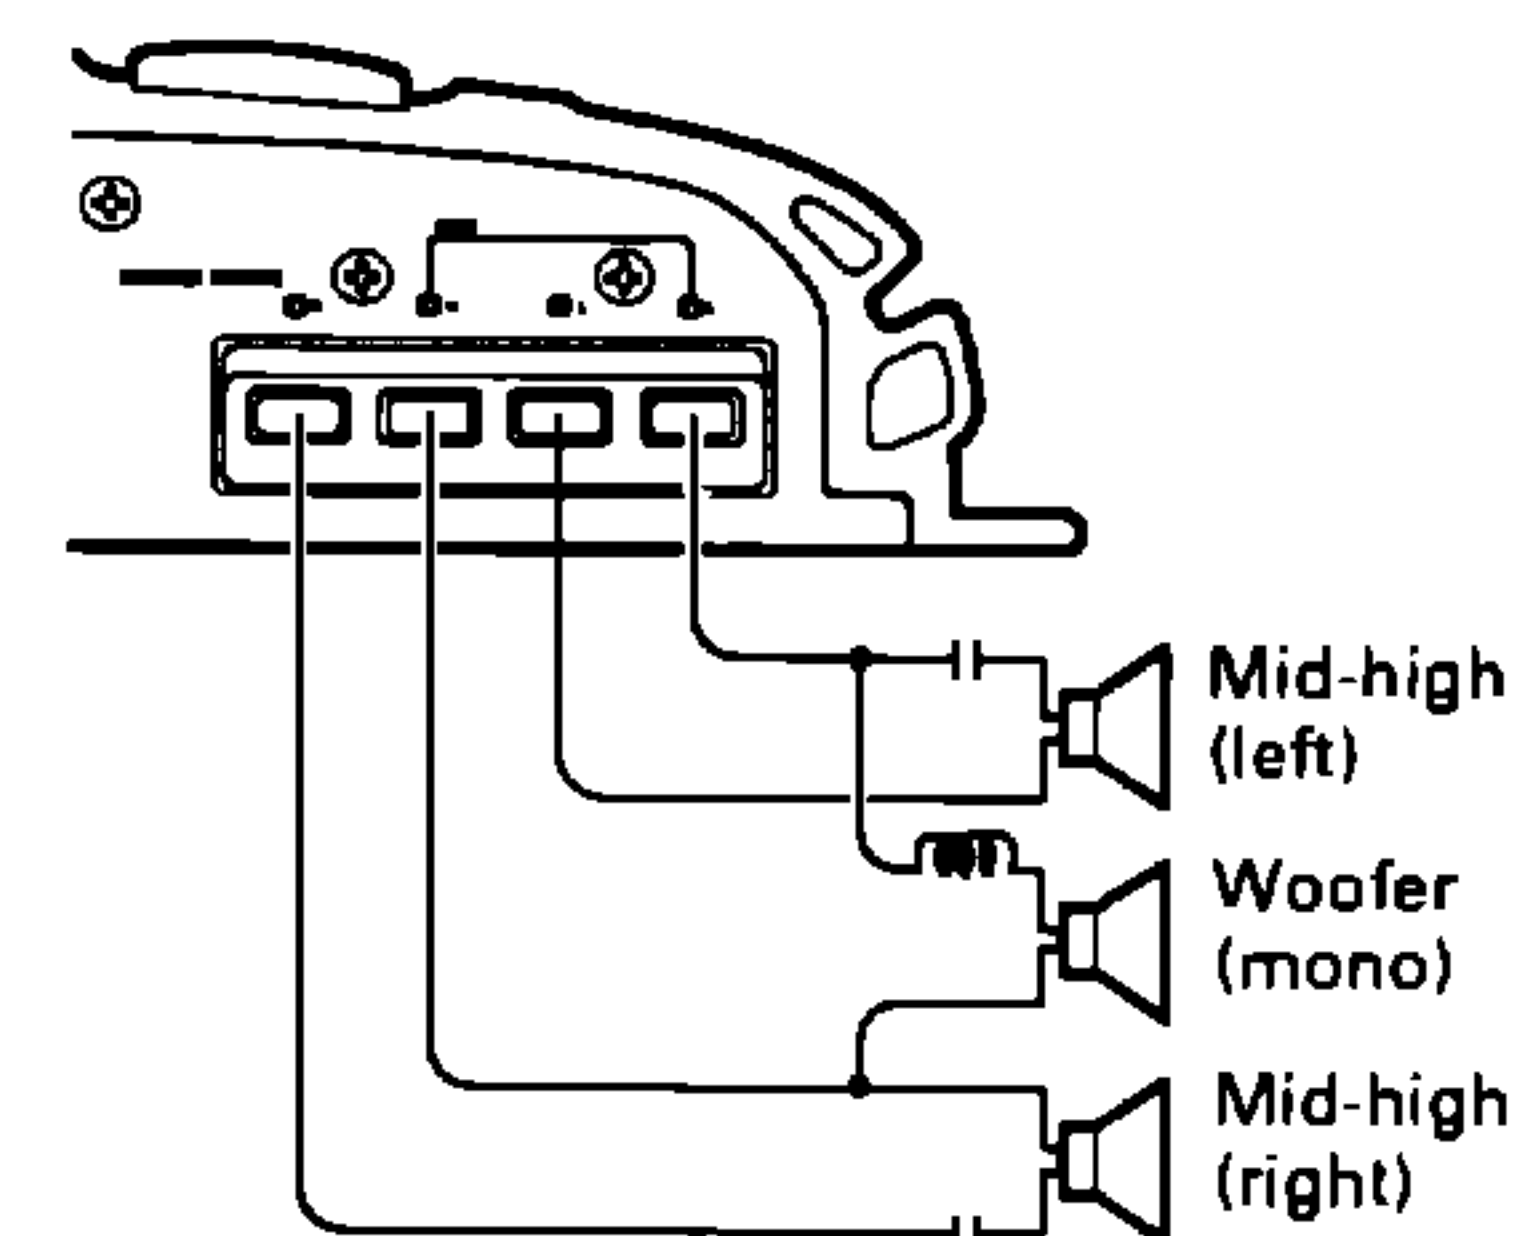

Fig. 19
The power amplifier is basically a two-channel/one-channel bridgeable amplifier, but three channels can be achieved by combining the stereo and mono modes using inductors and capacitors. See Figs. 19 and 20 for details of wiring.
• The following Figs. 19 and 20 require advanced understanding of electronics. If you do not understand the diagram, please have the work done by your nearest authorized Pioneer installation specialist.